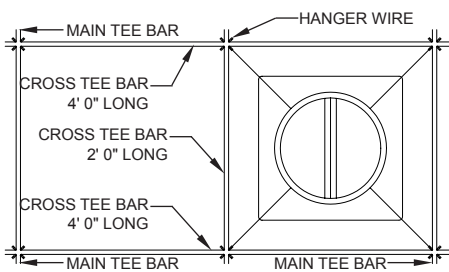

FIG. 1
1. Place diffuser in ceiling grid as shown in **FIG. 1**. Make sure diffuser is flat and level with T-bar system.